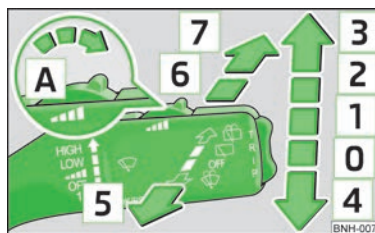

Fig. 28
- If you only wish to wipe the windscreen briefly, push the lever into the spring-tensioned position [4] » Fig. 28.
- Position the lever upwards into position [1] » Fig. 28.
- Position the lever upwards into position [2] » Fig. 28.
- Position the lever upwards into position [3] » Fig. 28.
- Pull the lever towards the steering wheel into the spring-tensioned position [5] » Fig. 28, the wash system and the windshield wipers will operate.
- Push the lever away from the steering wheel into position [6] » Fig. 28 and the windscreen wipers will operate regularly after a few seconds.
- Push the lever away from the steering wheel into the spring-tensioned position [7] » Fig. 28, the windshield wiper and wash system will operate.
- Move the lever back into the home position **[0]** » Fig. 28.
When the low beam or main beam are switched on, and the windscreen wiper lever is pulled into the position **[5]** » Fig. 28 on page 40, the headlights are sprayed briefly. To clean the headlights, the windshield is also sprayed after every ten squirts.
- Press the windscreen wiper lever into position **[4]** » Fig. 28 on page 40, the windscreen wiper arms will move into the service position.
- Turn on the ignition and press the windscreen wiper lever into position **[4]** » Fig. 28 on page 40, the windscreen wiper arms move to the home position. ■